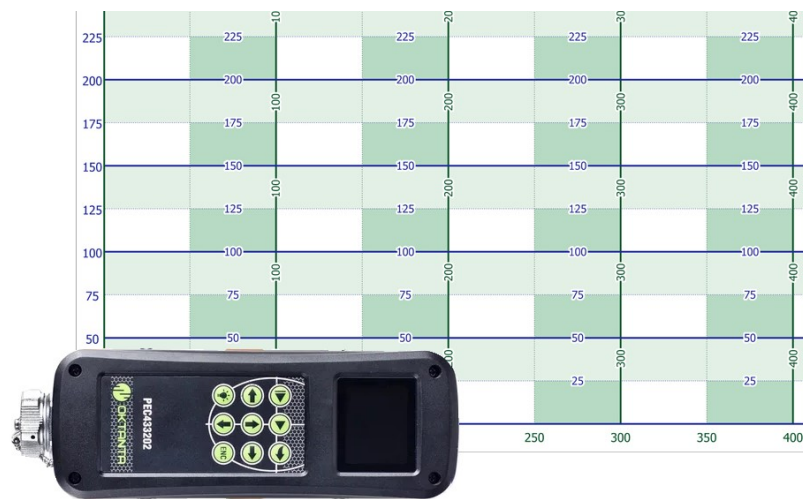

Figure 53. Sensor located in point with coordinate (100.0).
- You shall move the sensor to the next grid node, for example, point (100.0) and press on the  key of the sensor keyboard. The example of sensor location at the second step of scanning is shown in Figure 53.